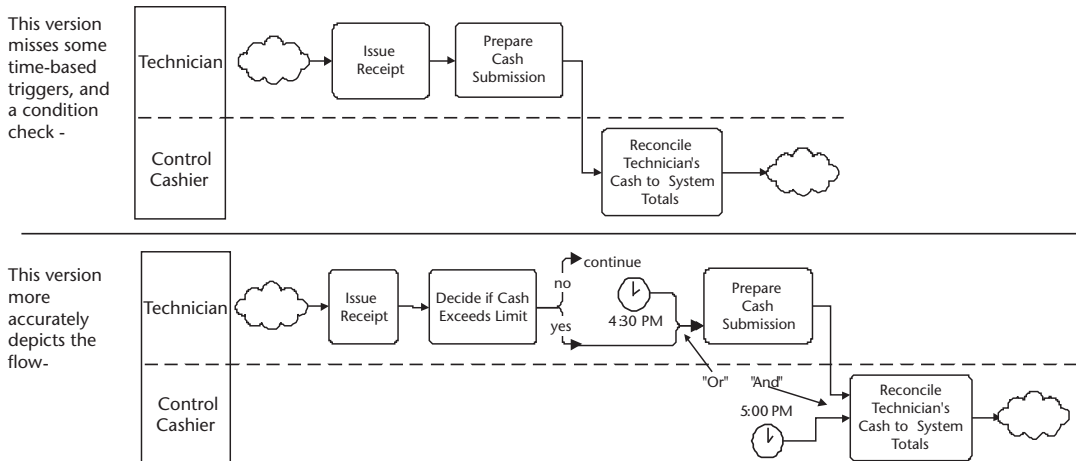

Figure 11.3 Question 3, “What makes it go?”
3. "What makes it go?" Now we're looking at the left edge of the step. This is a critical question, because it uncovers missing trigger conditions for a step, which is a fundamental aspect of workflow. Often the initial diagram will show a single flow line entering a step, but the question is "is the flow line shown *really* all that it takes to trigger the step?" Often, it turns out that a flow from a step performed by some other actor is also required. Also common is the case when a temporal event (e.g., "close of business") and/or a condition (e.g., "total receipts \geq cash drawer limit") is also required before a step can begin. The example we'll review includes many steps that are triggered by a schedule. See Figure 11.3.